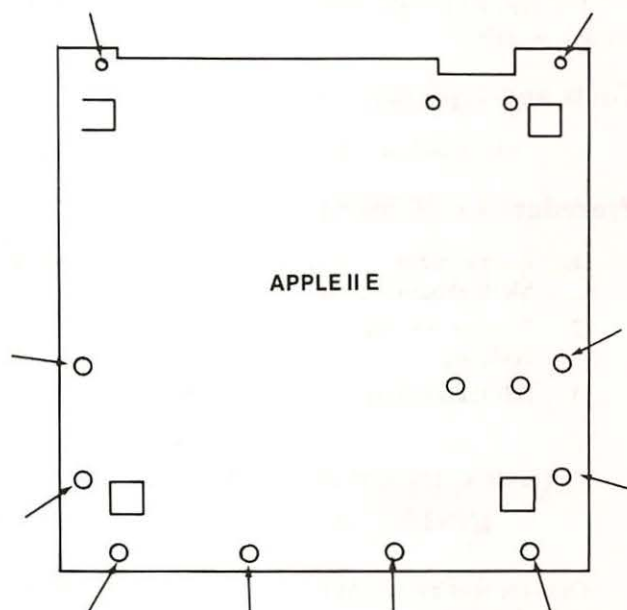

Fig. A-2. Apple IIe Bottom Plate.
6. Refer to Fig. A-2. Remove the six black round-head screws from the outside edges of the baseplate.
7. Refer to Fig. A-2. Remove the four black, round-head screws from the keyboard end of the baseplate.